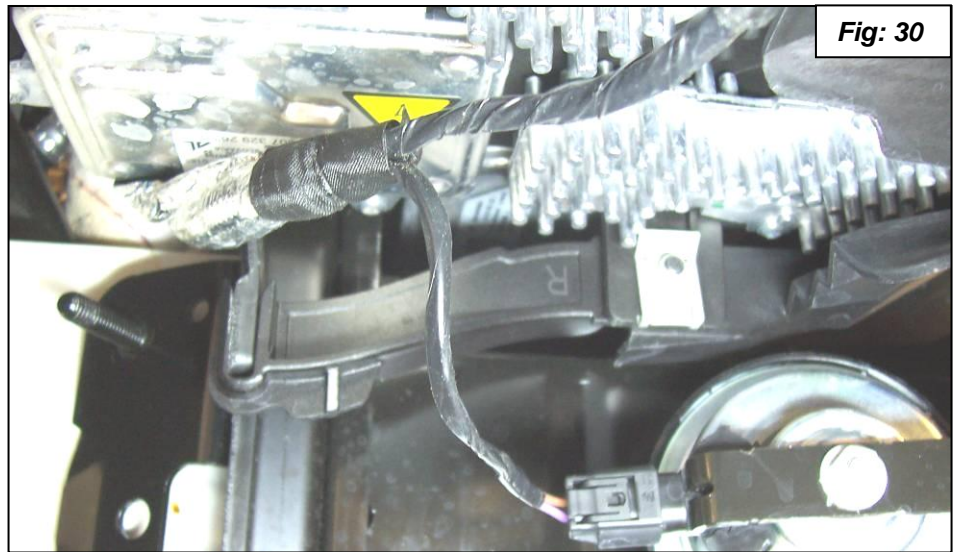

Fig: 30
- You can start the front bolt using your fingertips -- one from below and one hand over the bumper mounting box-tube. Tighten the bolt with a M10 1/4" drive wobble-socket, long extension and ratchet. Lift up a little on the big rubber radiator inlet duct to see the bolt head. Now tighten the rear bolt, but do not over-tighten. See **figure 30**.